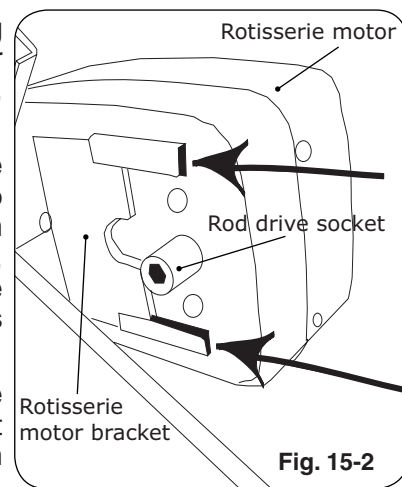

Fig. 15-2
2. Slide rotisserie motor fully onto motor bracket on right (Fig. 15-2, 15-3) until the drive socket rests in the cut-out.